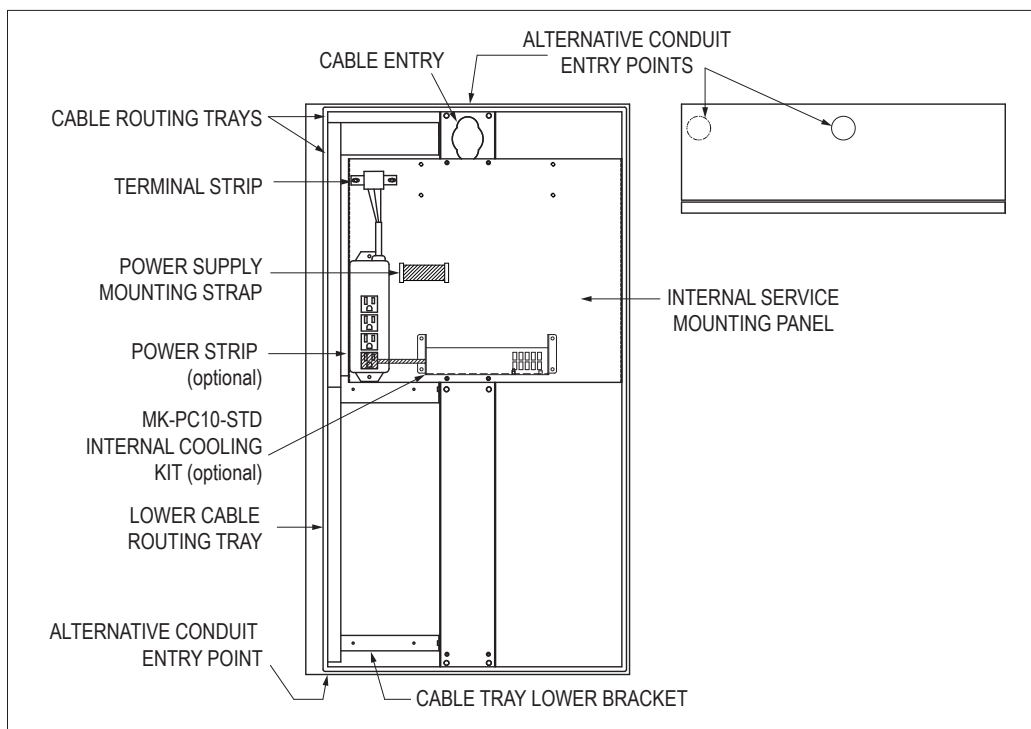

FIGURE 1 – INSIDE AND TOP VIEWS OF ENCLOSURE
1. Refer to Figure 1. A wiring entry hole is provided at the top center of the enclosure for use when pedestal or wall mounting the enclosure. If cables will not be going through the rear hole already provided, punch conduit holes as required.
NOTE: If punching conduit holes in the enclosure, place the hole(s) so that wires can be routed through the trays provided. See Figure 1 for recommended locations on the enclosure top, bottom, and rear walls. If necessary, remove cable routing covers and trays before drilling to avoid damage and to allow room for conduit installation. In wet environments, ensure that conduit entry points are adequately sealed.
- b. When using the optional Dell Optiplex XE2 mounting kit (part number MK-PC10-DELLXE2): Refer to Figures 1 and 5.
4. Refer to Figure 1. Install any additional equipment on the internal service panel. The panel can be removed for drilling as required.
NOTE: If you ordered the optional MK-PC10-STD internal cooling kit, install it on the service panel now, as shown in Figure 1. This cooling kit may be low-mounted, as shown in Figure 1, or high-mounted on the top mounting pattern on the service panel. Hook up power to the internal cooling kit by plugging the kit's AC cable into an outlet on the power strip. For non-North American power strips, connect power using the alternative cable that shipped with your internal cooling kit. Connect the cable to the kit, then connect the pigtail end to the AC input terminal blocks.
5. Refer to Figure 1. Remove cable routing tray covers and route the power cable to the power strip terminal block on the internal service panel. Route all signal cables (video, keyboard/mouse, serial, network, etc.) and AC power cables as required. For good internal air flow, all cables should be routed neatly through the trays.